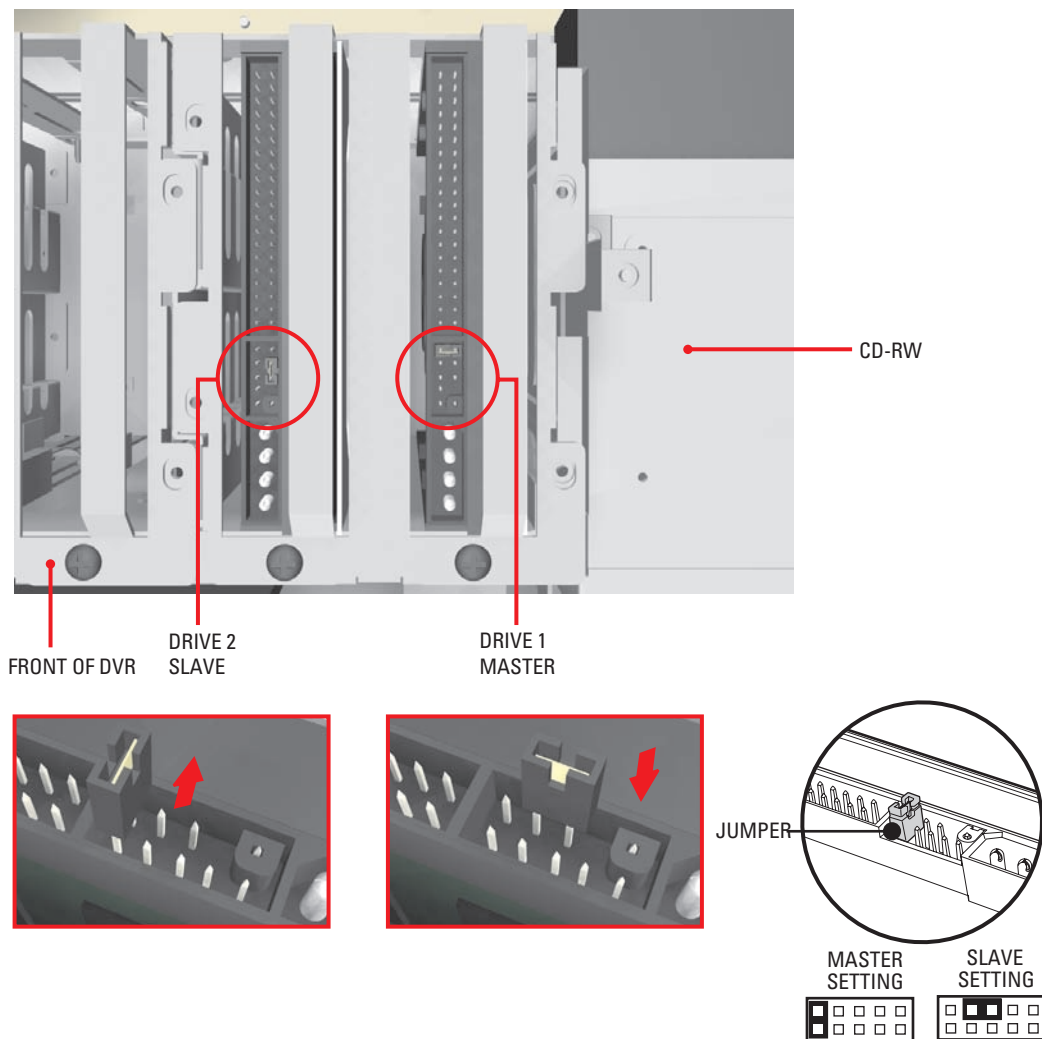

Figure 15. Setting Drive Jumpers
1. Set the appropriate jumper connections for each drive using Figure 15 as a guide.
- a. Using your fingernails or a pair of tweezers, remove the plastic jumper blocks by pulling them gently away from the drive as shown in Figure 15.